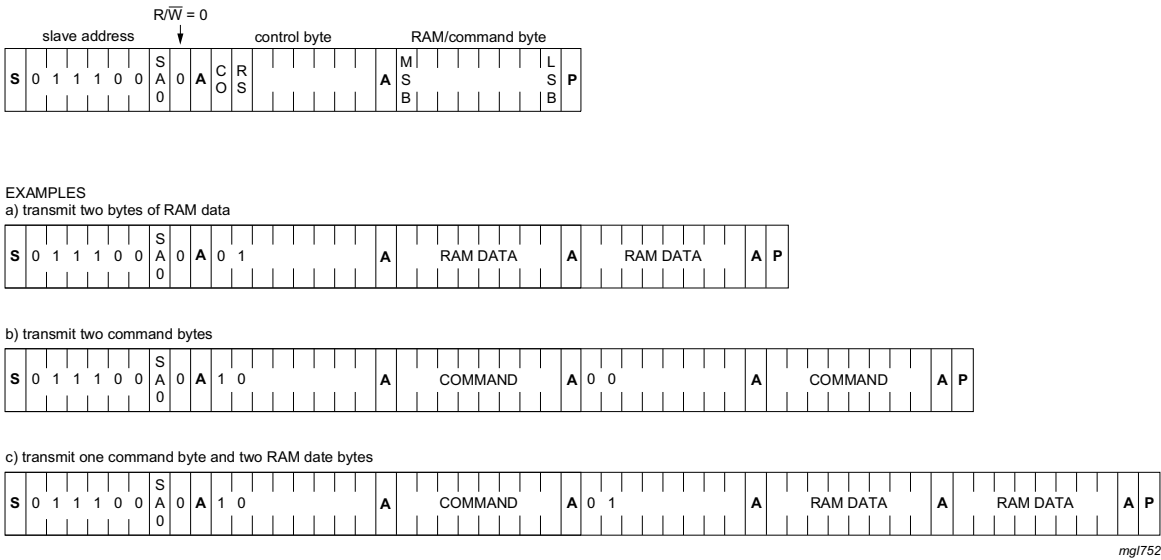
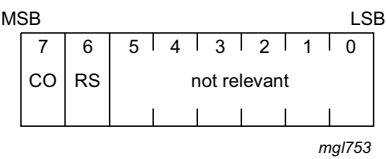

Fig 17. I²C-bus protocol
Fig 18. Control byte format
The I²C-bus protocol is shown in Figure 17. The sequence is initiated with a START condition (S) from the I²C-bus master which is followed by one of the available PCF85133 slave addresses. All PCF85133 with the same SA0 level acknowledge in parallel to the slave address. All PCF85133 with the alternative SA0 level ignore the whole I²C-bus transfer.
After acknowledgement, the control byte is sent, defining if the next byte is a RAM or command information. The control byte also defines if the next byte is a control byte or further RAM or command data (see Figure 18 and Figure 17). In this way it is possible to configure the device and then fill the display RAM with little overhead.